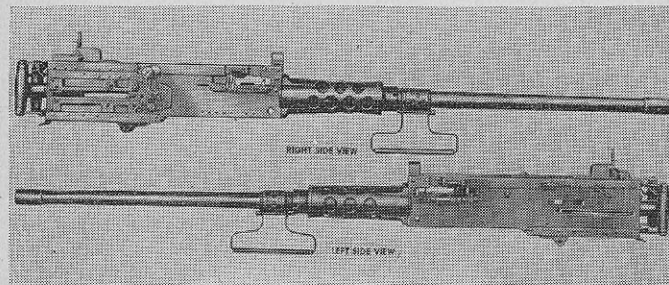

FIGURE 15.—Machine gun, caliber .50, M2, HB.
c. The Browning machine gun, caliber .50, M2, HB, is an *air-cooled* gun having a much heavier barrel than the aircraft gun or the water-cooled gun. (See fig. 15.) The heavy barrel retards overheating during automatic fire.